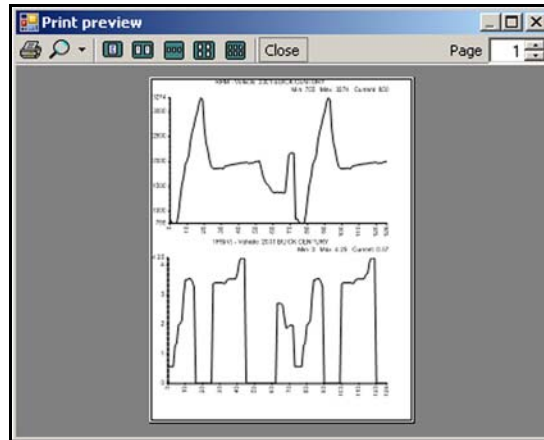

Figure 4-8 Sample print preview window
- b. If Graph(s) Print Preview was selected, a preview window opens. Click on the printer icon (Figure 4-8) to send the file to the printer.